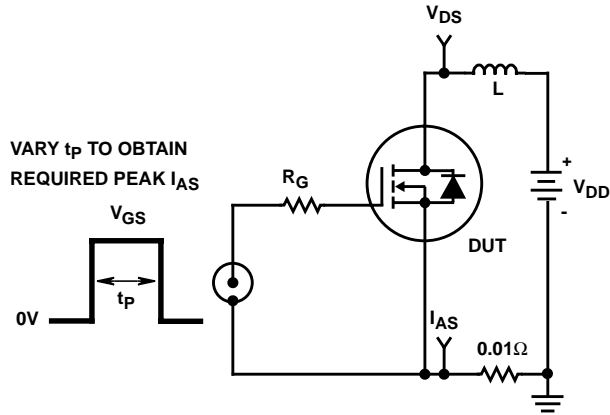

FIGURE 15. UNCLAMPED ENERGY TEST CIRCUIT
4.  $V_{DD} = 10\text{V}$ , starting  $T_J = 25^\circ\text{C}$ ,  $L = 6.18\text{mH}$ ,  $R_G = 50\Omega$ , peak  $I_{AS} = 5\text{A}$ . See Figures 15, 16.